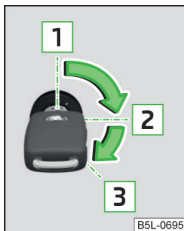

Fig. 105
- When driving without the engine running, the ignition key must always be in the position  » Fig. 105 on page 119 (ignition switched on). This position is indicated by the illumination of certain indicator lights in the instrument cluster.
- The starter must only be operated when the engine is not running and the vehicle is at a standstill. The starter or engine may be damaged if the starter is activated when the engine is running  » Fig. 105 on page 119.
Petrol engines » Fig. 105
Diesel engines » Fig. 105
If the **steering is locked** and it is impossible or difficult to turn the key into position  » Fig. 105 , move the steering wheel back and forth to unlock the steering.
- Switch on the ignition  » Fig. 105 on page 119.
Switch off the engine by turning the ignition key into position **1** » Fig. 105 on page 119.